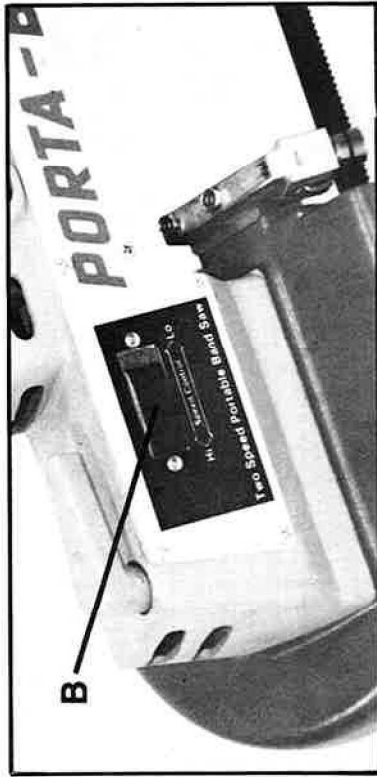

Fig. 2
An adapter, shown in Fig. 2, is available for connecting 3-prong grounding type plugs that are used on units less than 150 Volts to 2-prong receptacles. **THIS ADAPTER IS NOT ALLOWED IN CANADA.** The green colored rigid ear, lug, etc., must be connected to a permanent ground such as a properly grounded outlet box, as shown in Fig. 2.
The Two-Speed Band Saws are equipped with a speed changing switch (B) Fig. 2.